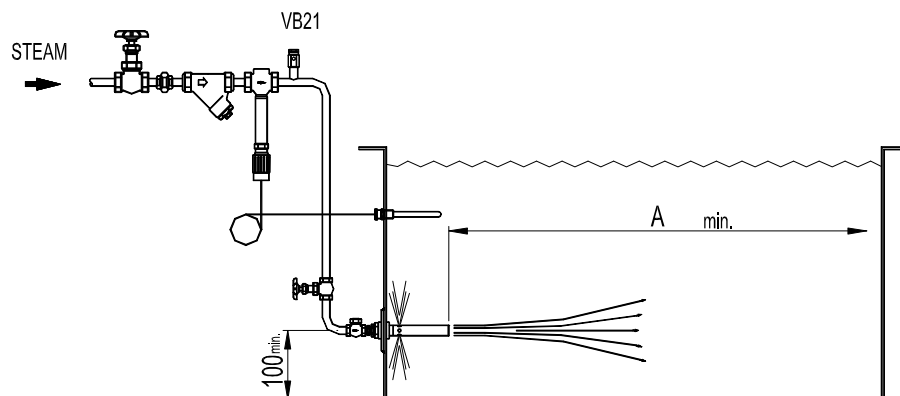
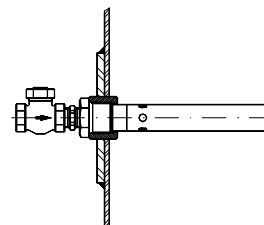

Fig.1
Fig.4
- The SI steam injector should be fitted as low as possible in the tank and always below the level of the thermostat controller. A minimum depth of water must be allowed below the injector as shown on Fig.1 and 2.
- The distance between the injector and the tank wall must be as great as possible. The dimensions mentioned on Fig.1 to 3 are the minimum recommended.
- A stiffener plate should be welded to the tank wall to carry the bulkhead fitting (Fig.4). A vacuum breaker (VB21) must be fitted between the injector and the control valve. Where steam supply pipe is below the level of the liquid in the tank (Fig. 1), a non return valve is recommended between the injector and the control valve to prevent the contents of the tank flowing back through the valve and up the steam supply pipe when the steam supply is turned off. A stop valve should also be fitted between the injector and the non return valve to enable maintenance work to be done on both the control valve and non return valve.